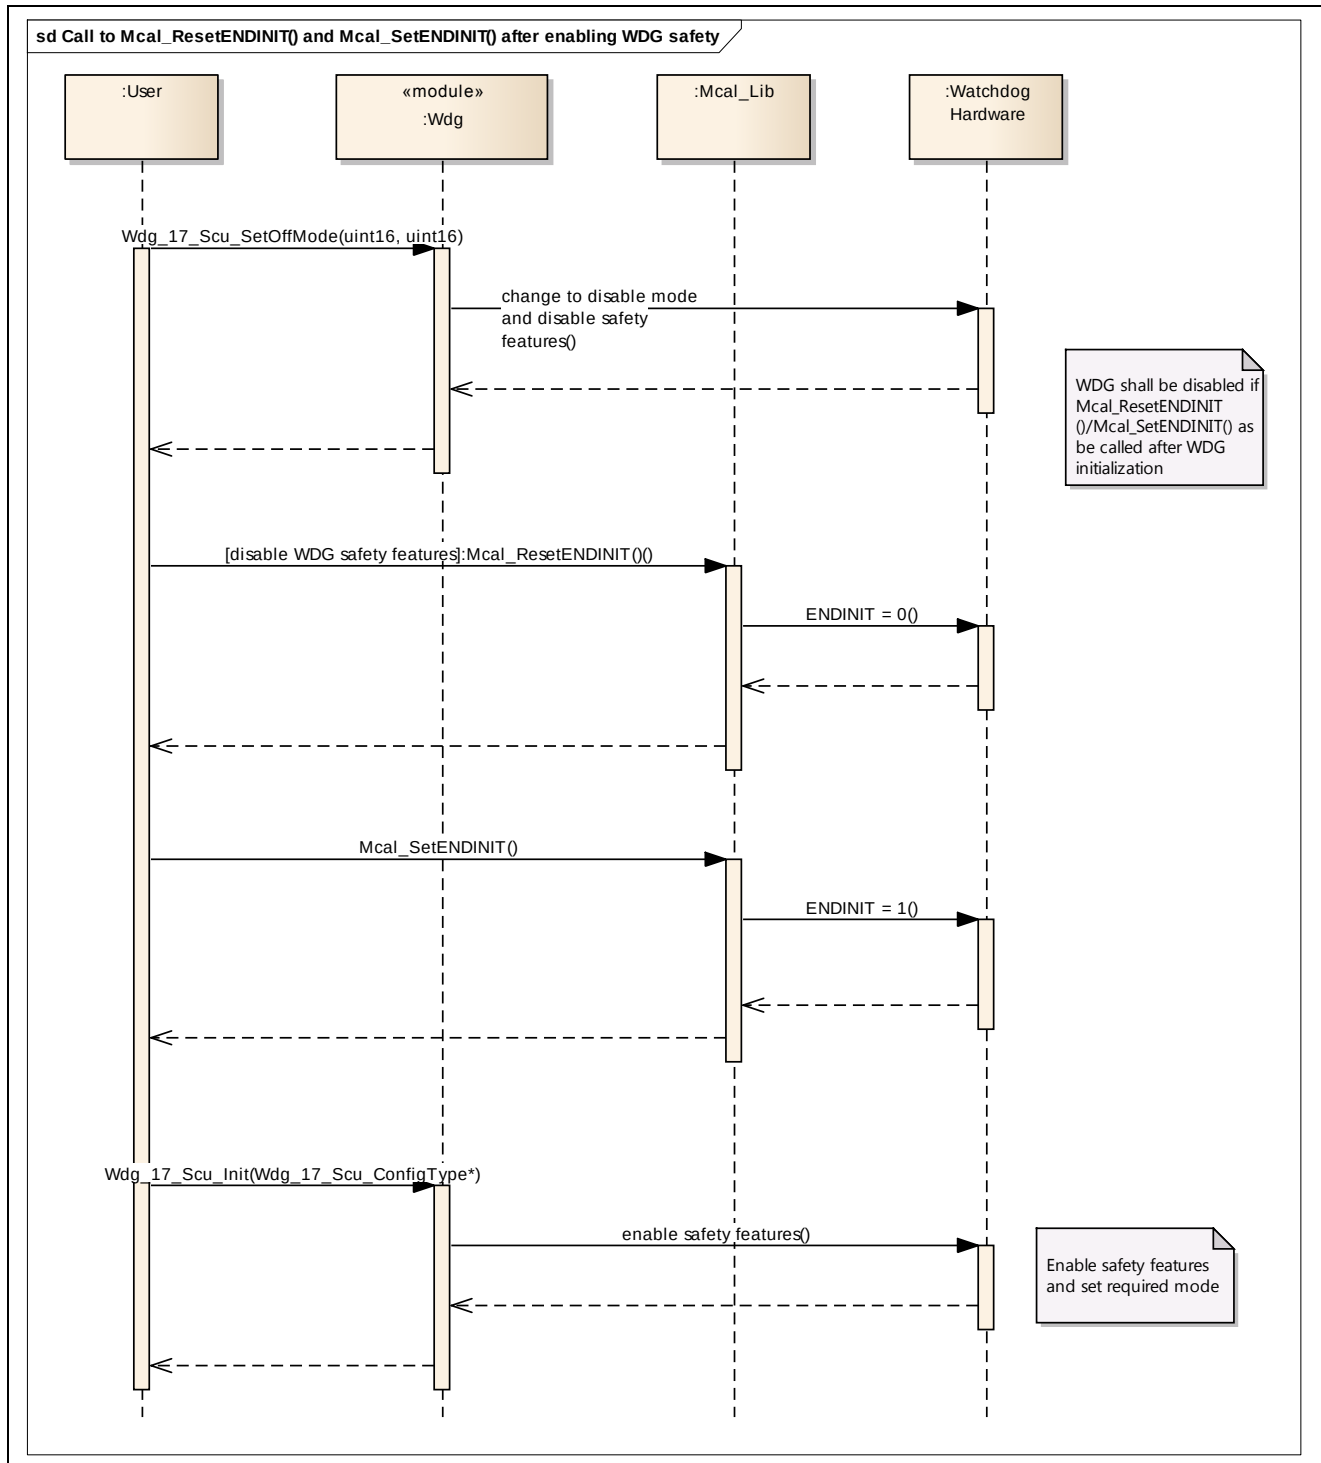

Figure 7 Access to Mcal_ResetENDINIT()/Mcal_SetENDINIT() after WDG initialization
- During run time if user needs to access Mcal_ResetENDINIT() / Mcal_SetENDINIT(), WDG shall be disabled. **Figure 7** explains access to Mcal_ResetENDINIT()/Mcal_SetENDINIT() after WDG initialization.